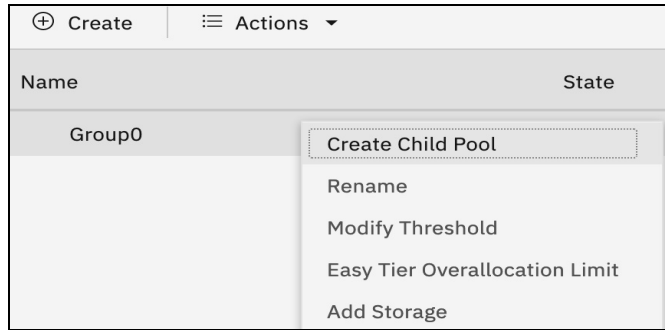

Figure 4-9 Right-click parent pool actions menu
- b. Right-click on the parent pool you want to create the child pool in, as shown in Figure 4-9 on page 138.